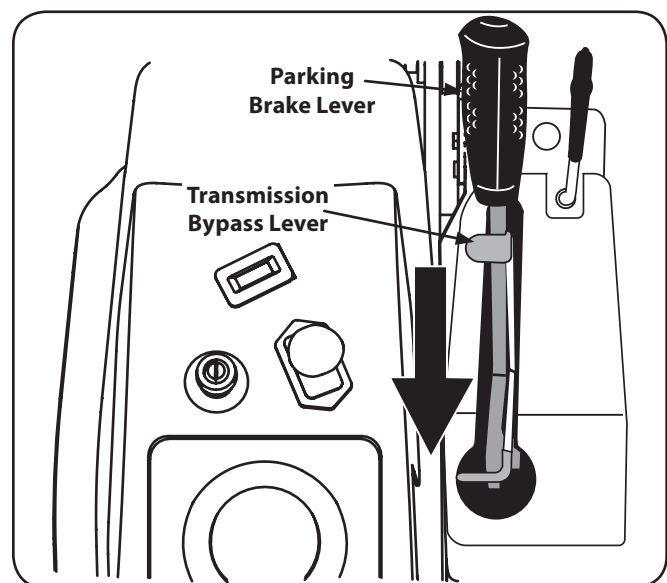

Figure 3-2
4. Engage the transmission bypass valves by pulling the bypass lever inward freeing it from the parking brake lever and pull back all the way. See Figure 3-2.